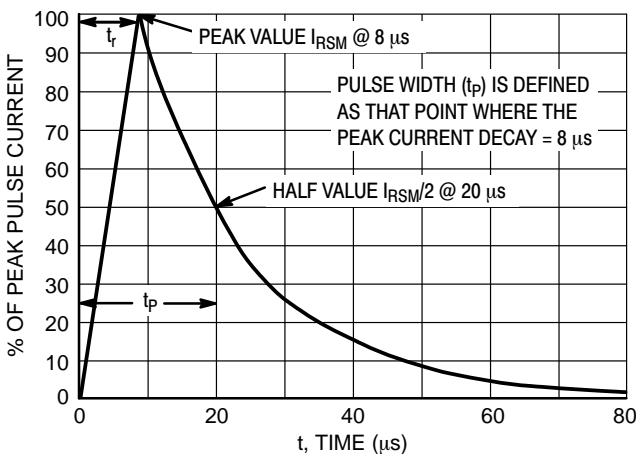

Figure 1. IEC61000-4-5 8/20 μs Pulse Waveform
1. Non-repetitive current pulse per Figure 1 (Pin 5 to Pin 2)